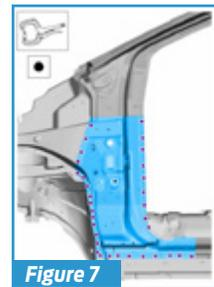

Figure 7
5. Install and spot-weld the new replacement outer panel, using the locking pliers and the resistance spot-welding equipment (**Figure 7**).
- Please note that the illustrations are intended as a general guideline and are not all-inclusive. For additional questions, contact Ford Senior Damageability Engineer Gerry Bonanni at (313) 317-9000 or the Ford Crash Parts Hotline: [cphelp@fordcrashparts.com](mailto:cphelp@fordcrashparts.com)